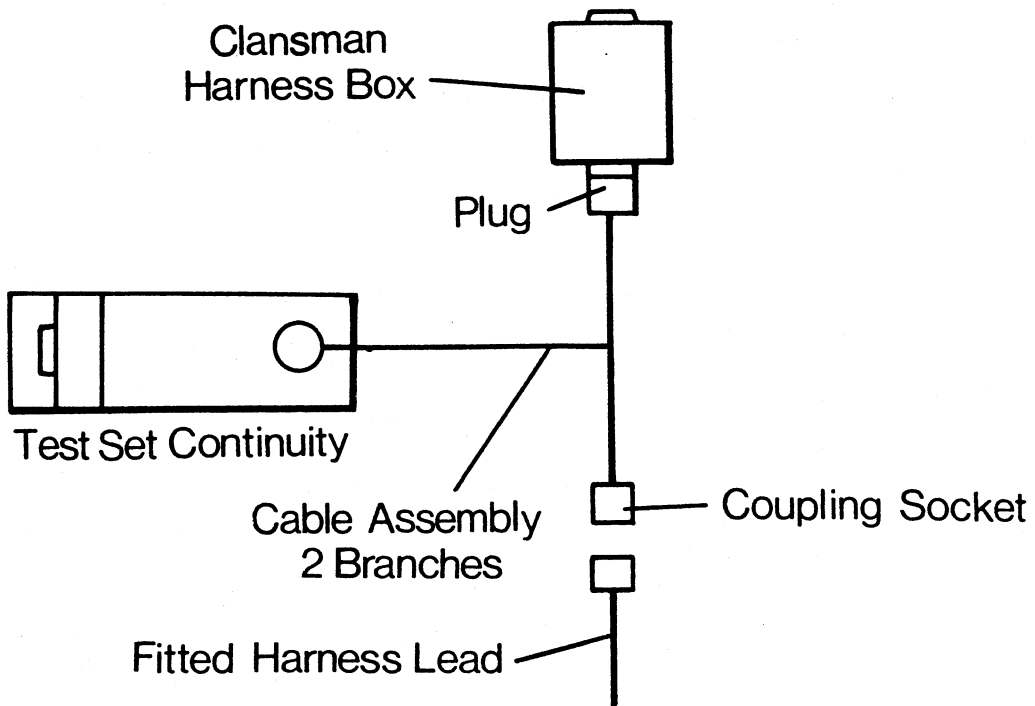

Fig 83.—Test Set 18V DC Harness Connection
a. The 18V DC supply available at the *HARNESS* socket of any installed CLANSMAN harness containing an IB2 or IB3 box, using the *CABLE ASSEMBLY, 2 branches*, (see Fig 83).